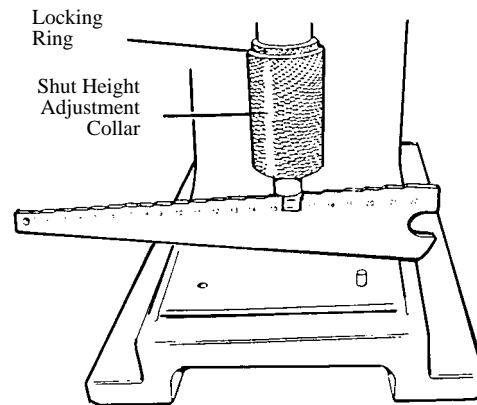

Figure 3a.
- With the **3335 Press**, lock the shut height adjustment collar toward the base of the press shaft. (See Figure 3a)